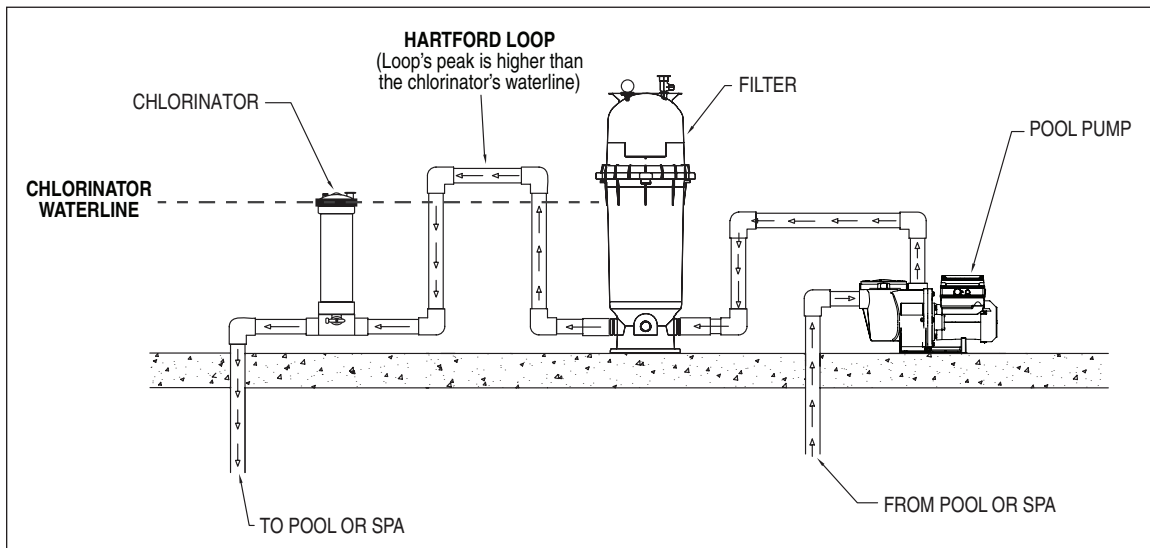

Figure 3: Example of a Hartford Loop Installation
1. A Hartford loop can be installed in the system plumbing. A Hartford loop is a small section of plumbing that is built above the highest point of the system's waterline. This loop causes the water head to equalize and prevents the water from draining back into the filter and pump. See **Figure 3** below for an example of this installation.